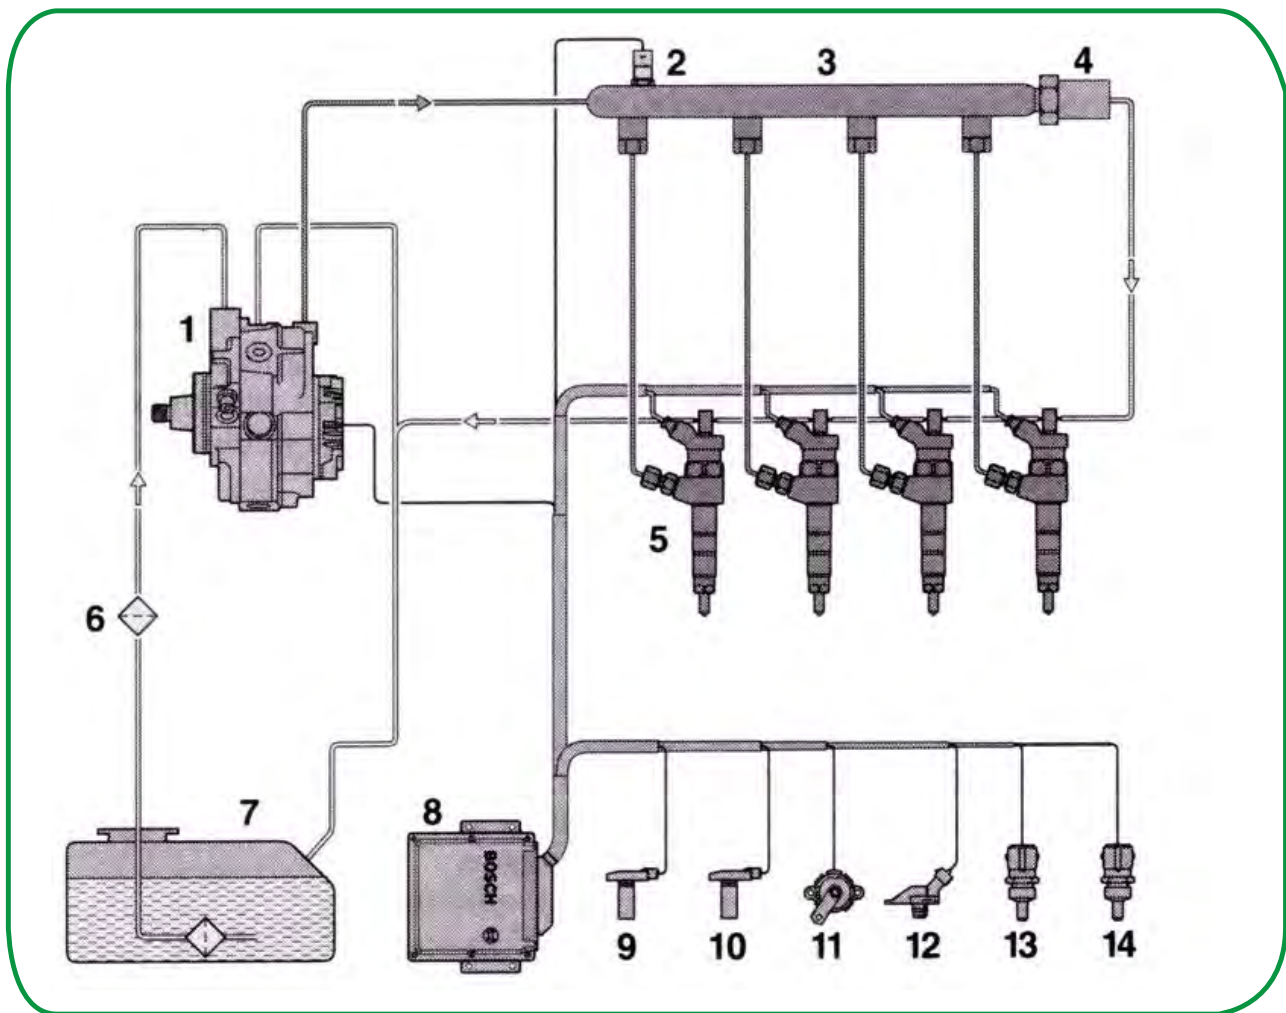

Figure 12-1. Common rail diesel fuel injection system.
In addition to better fuel economy, engine management and electronic fuel delivery, systems have now increased diesel engine performance and emissions to equal gasoline engines. Refer to figure 12-1.
How the common rail diesel fuel injection system works. Refer to figure 12-1. A high pressure mechanical pump (1). Pressurizes the fuel which flows to the common rail (3). A fuel control valve (4). Allows the fuel pressure to be maintained at a level set by the Electronic Control Unit (ECU) (8). The common rail feeds the injectors (5). Sensor inputs to the ECU comprise fuel pressure (2). Engine speed (9). Camshaft position (10). Accelerator pedal travel (11). Boost pressure (12). Intake air temperature (13). Engine coolant temperature (14). Numbers (6) and (7) are the fuel filter and fuel tank respectively.